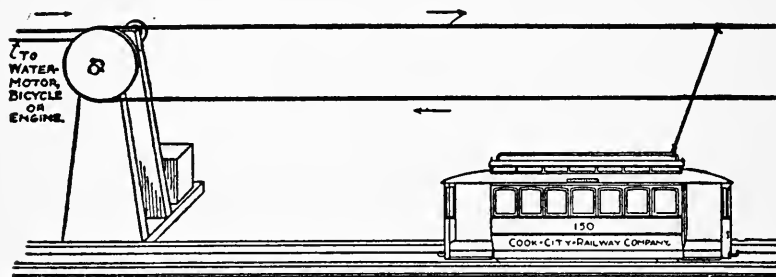

FIG. 355.—The Toy Railway
Figure 355 shows a railway set up and in running order. As shown in the illustration,
**Operation of the Railway**, and though Fig. 355 prob-